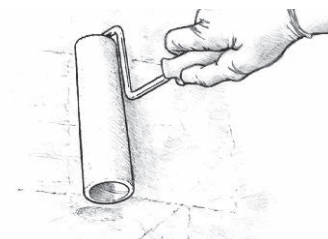

Figure 30 Roll lightly and randomly over a small area. Spread the epoxy into a thin even film.
4. Roll lightly and randomly over an area approximately 2'×2' to transfer the epoxy evenly over the area (Figure 30).